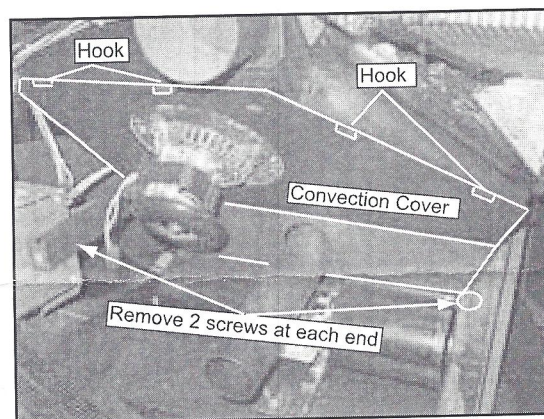

Figure 3
7. Remove 2 screws at each end of the the convection cover and then slide the hooks to the left and remove with the exhaust blower still attached. **Figure 3.**
9. Remove 2 screws to remove the thermostat block and disconnect the 2 yellow wires. **Figure 3.**